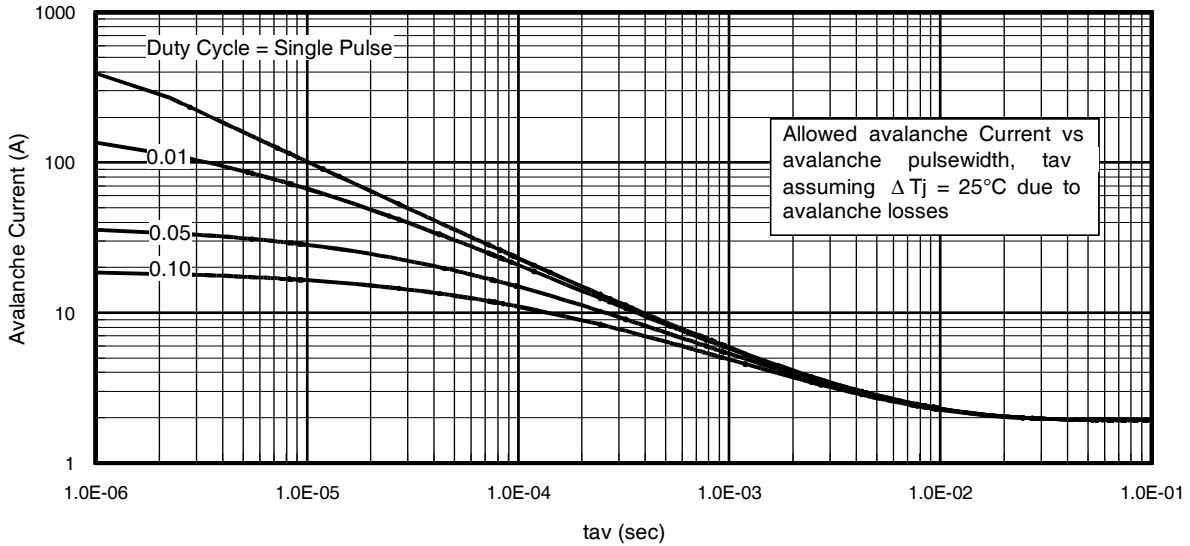

Fig 15. Typical Avalanche Current Vs.Pulswidth
7.  $\Delta T$  = Allowable rise in junction temperature, not to exceed  $T_{jmax}$  (assumed as 25°C in Figure 15, 16).